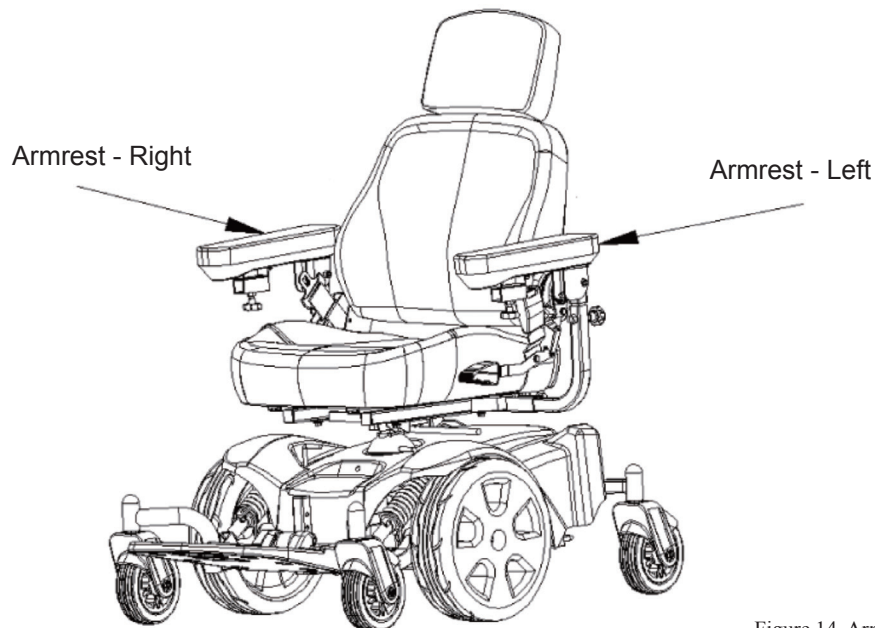

Figure 14. Armrest assembly
6. Armrest (Right/Left) assembly. (See figure 14)